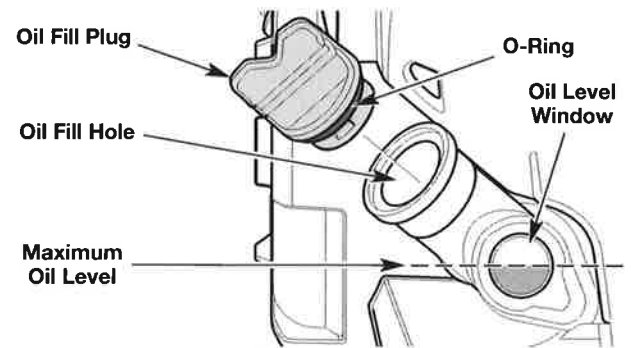

Fig. 25
3. Look into the oil level window; use a flashlight if necessary. **The oil level should fill the window approximately halfway** (Fig. 25). If the oil level is too low, add oil. Refer to *Adding Oil*.
1. Clean the area around the oil fill plug (Fig. 25) to prevent debris from entering the oil fill hole.
3. Add oil to the oil fill hole until the oil level is approximately halfway up the oil level window (Fig. 25).
5. Make sure the O-ring is in place on the oil fill plug (Fig. 25).
7. Make sure the O-ring is in place on the oil fill plug (Fig. 25).